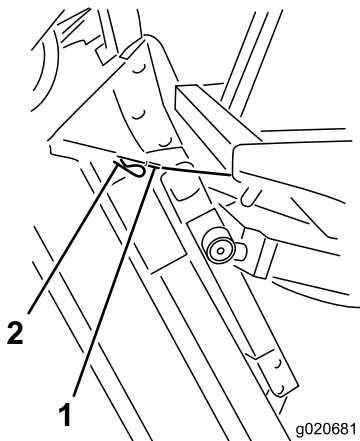

Figure 76
6. Hold the mower deck upright, fit the cable end over the pin on the mower deck lift arm, and secure it with the hairpin cotter (Figure 76).